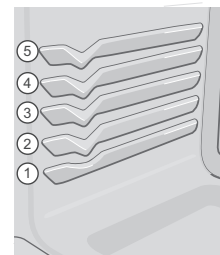

Figure 17: Rack positions
5. Place food in the oven after 2 minutes to rack position recommendations (Table 3) and (Figure 17). Be sure to place pan with the meat directly under the broil element and close the oven door during broiling.